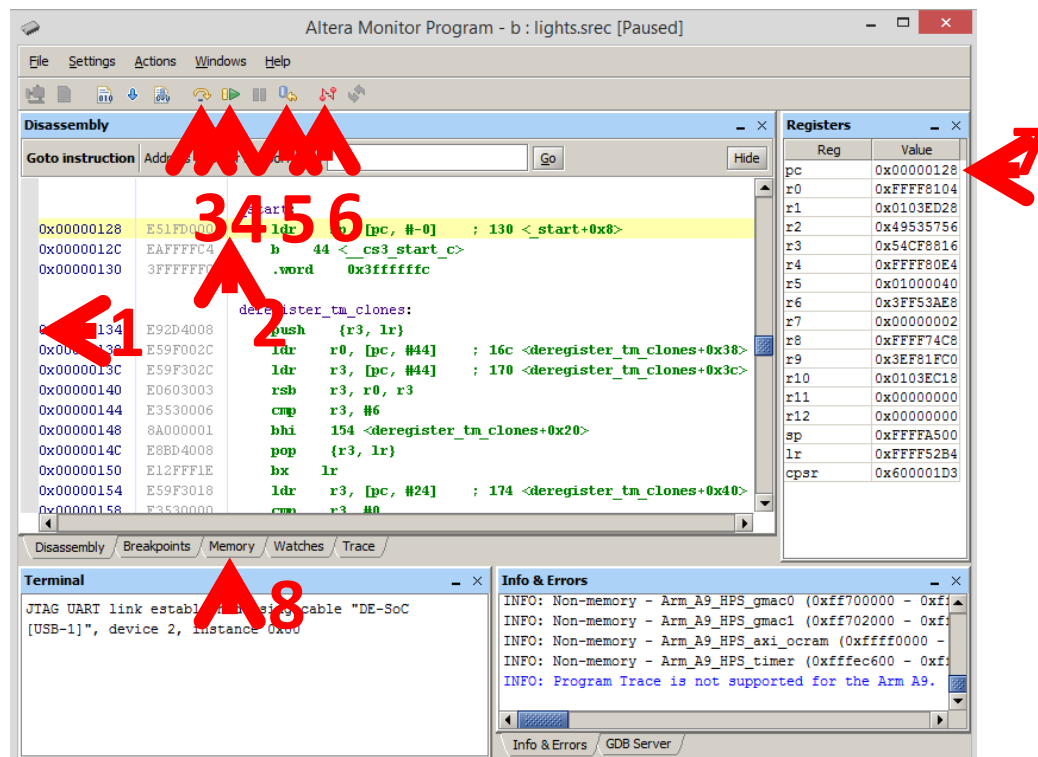

Figure 8. Disassembly of the C source code after successful download to DE1-SOC
12. Next load the compiled program onto the DE1-SOC, Actions > Load. Sometimes an error will pop-up during the loading process. Looking at the Error box, we see the processor was not able to stop and accept programs, don't worry, just try it again. It may take several tries but usually the second try will work. If you still cannot download to the DE1-SOC board after several tries, it means there is an error in the Verilog portion of your design. Unfortunately, these types of errors could be logic errors and therefore are only apparent during implementation. If successful you will see in the Disassembly window the assembly version of your code. There is a pre-loader followed by your source code, Figure 8.
13. Figure 8, is your main debugging window. At this point your C program is downloaded but not running. Following the numbered arrows: